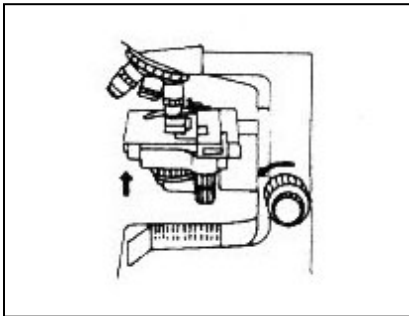

Fig 4.3
- Focus the specimen with 10x objective by turning the coarse focusing knob. Make sure the condenser is at its top position (Fig 4.3)